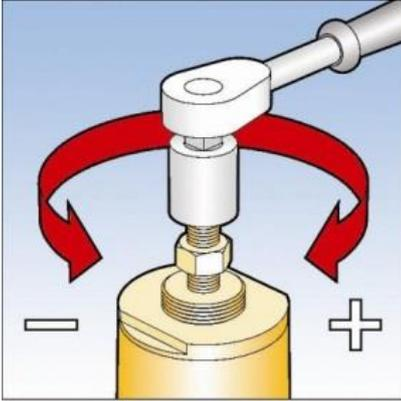

Fig. 5
17. For H.P. 65mm & 80mm unit & L.P. 100mm & 150mm unit, slacken locknut on spring adjusting stem and connect suitable spanner (24mm A/F) to hexagon of spring adjusting stem. See Fig. 5.